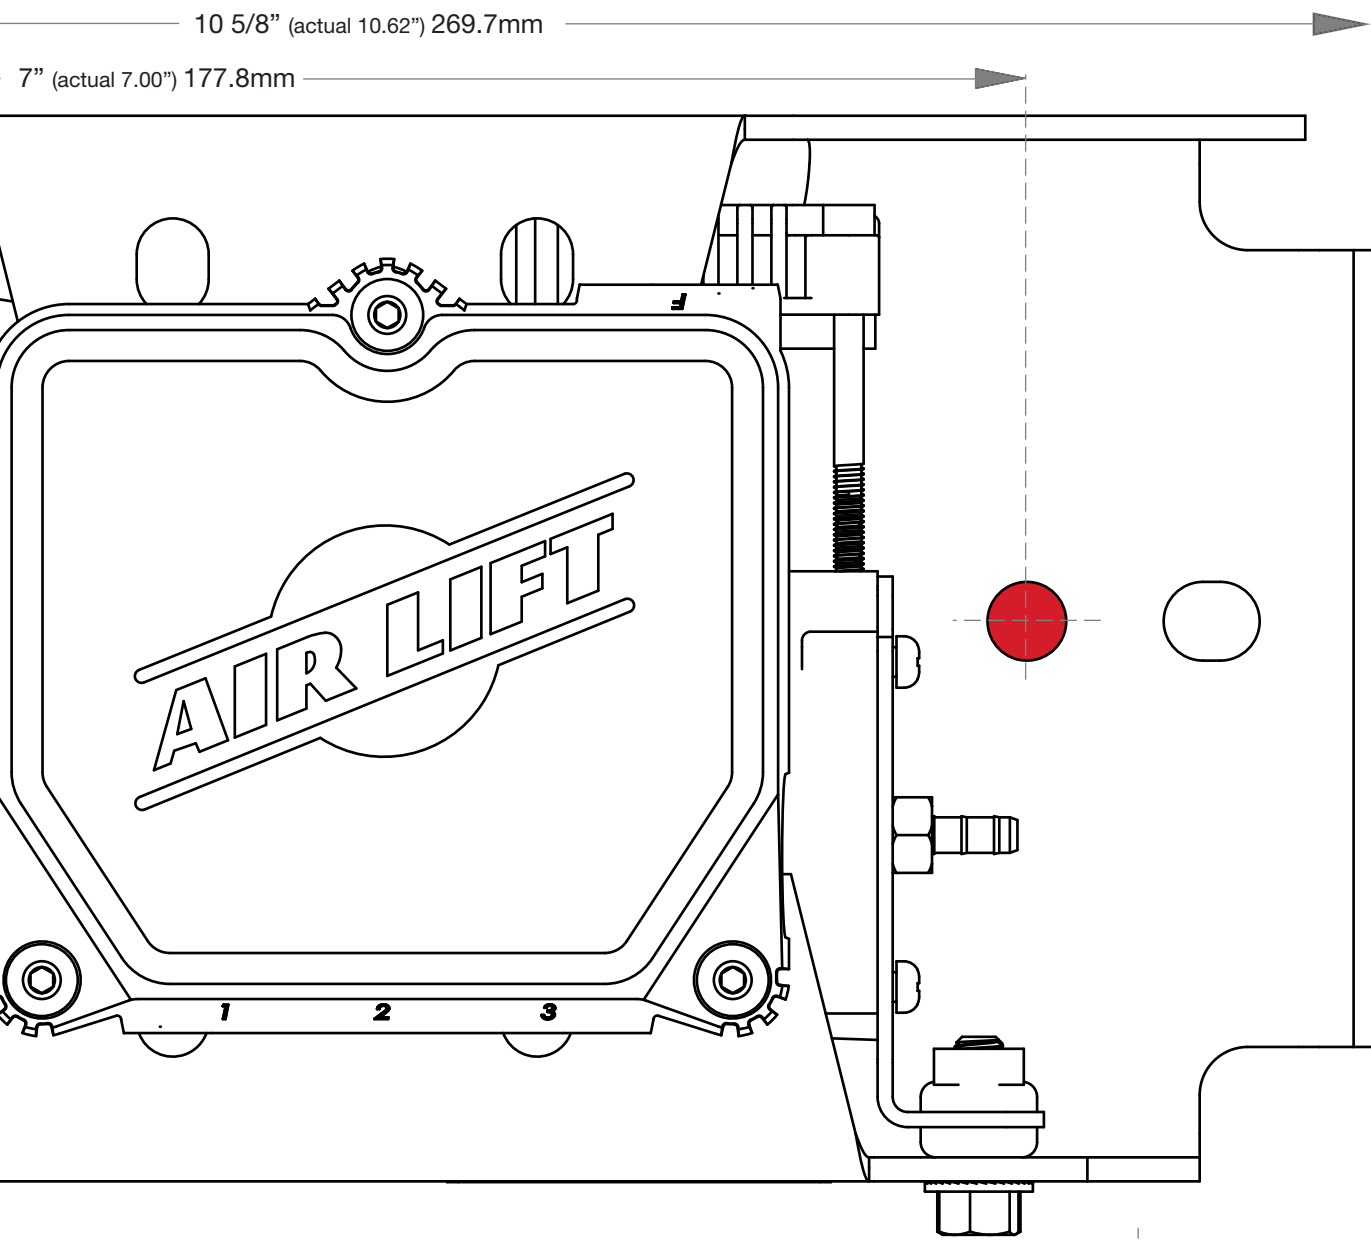

*fig. 6*
2. EZ Mount can be mounted in any orientation except with the electrical connector pointed down or with the Air Lift logo facing the ground (Fig. 3). There are mounting holes in the side of the bracket and in the top. Use the included template (Fig. 6) for mounting with self-tapping screws or hex cap bolts. If mounting from the top, you must first remove the P-clamp and then re-install the P-clamp using the mounting hardware. Use a 1/4" drill bit to make pilot holes if using self-tapping screws. Before drilling, ensure that the back side is clear of vehicle components including brake lines, fuel lines, wiring, etc. Do not remove components from the EZ Mount assembly.